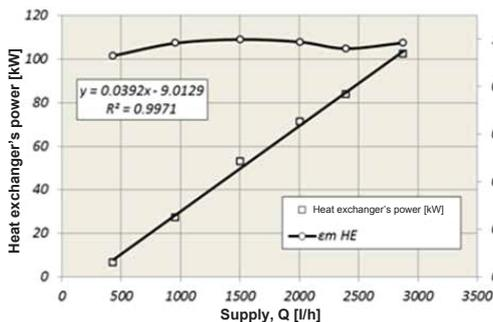

Figure 2
- Top performance rate (99%) for an additional 25% in energy savings (figure 2)